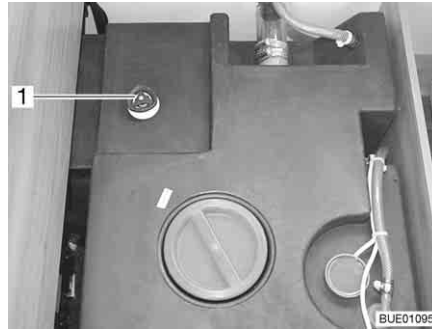

Fig. 129 Water tank with handle
- Turn the handle (Fig. 129,1) on the water tank in a clockwise direction as far as it will go.
- Turn the handle (Fig. 129,1) on the water tank in an anticlockwise direction as far as it will go. Excess water will drain away leaving 60 litres in the tank.